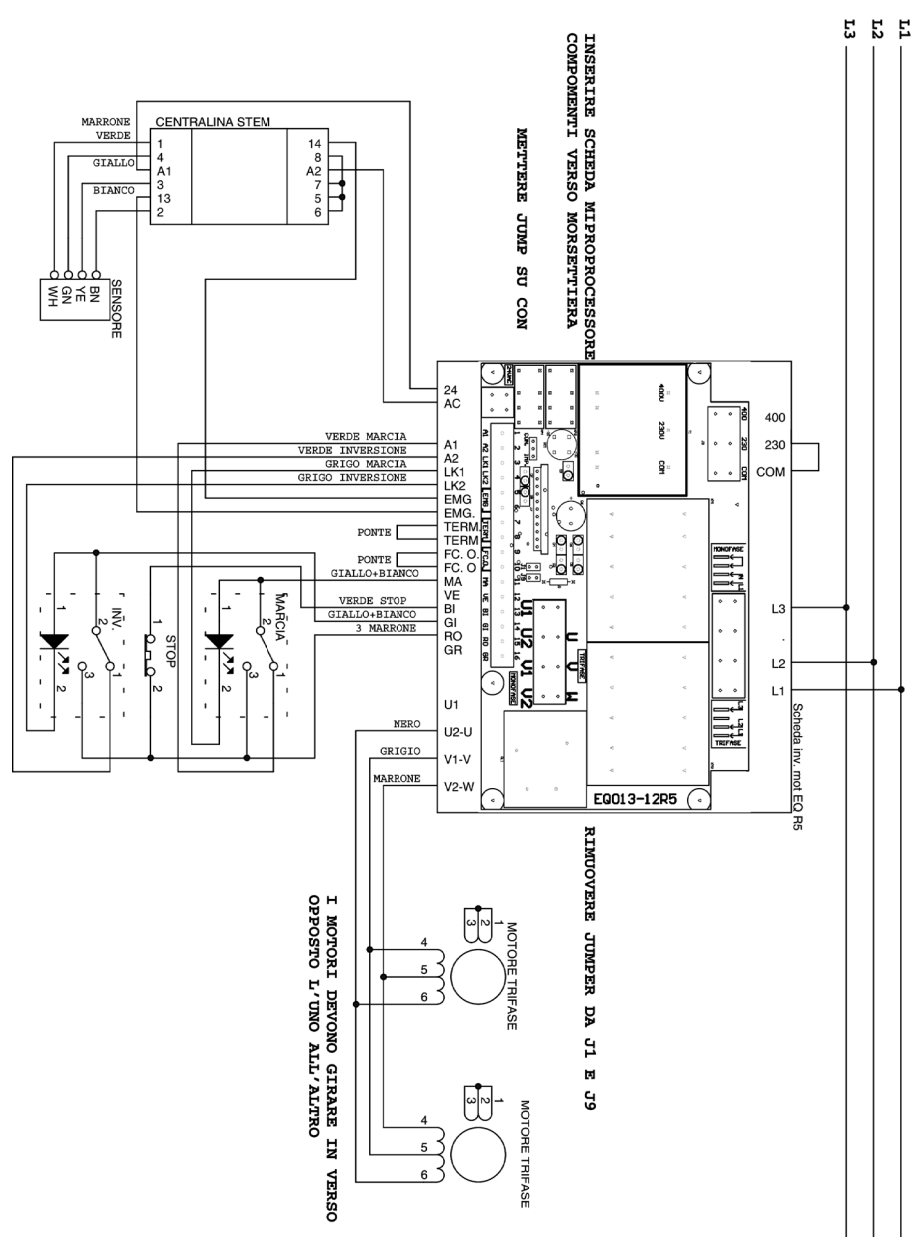

Fig. 2.4.3
2.4.3 Wiring diagram Three-phase 230V (Fig. 2.4.3)